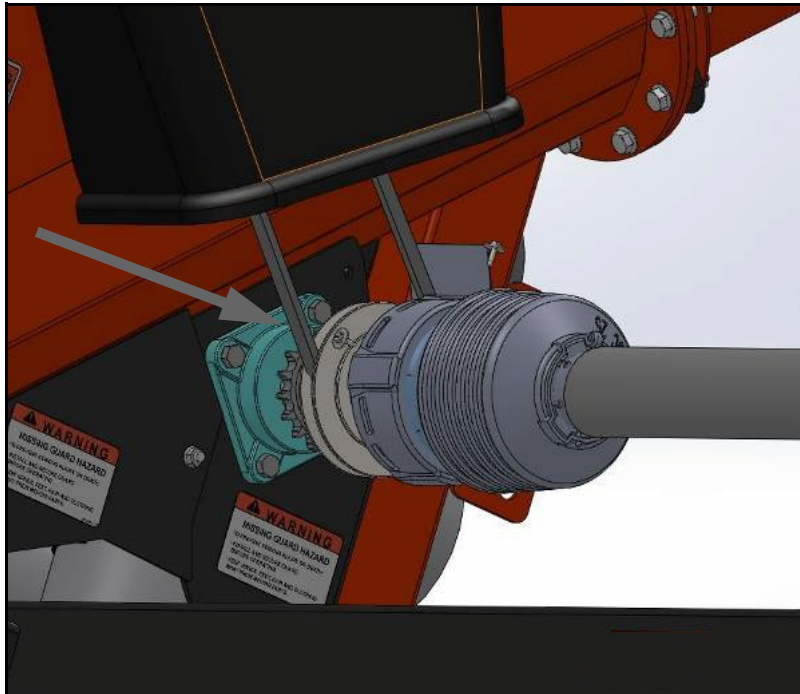

Figure 5.16 Main Drive Shaft Bearing Front
1. Lubricate the front bearing on the main drive shaft (see Figure 5.16).